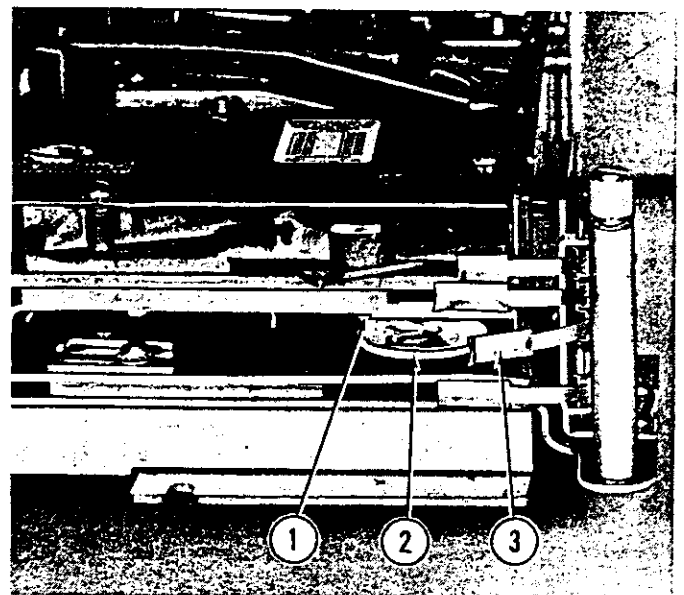

Fig. 9. SLUG REJECTOR COIN SWITCH SETTING
(1) The mechanical adjustments of the slug rejectors should be made in accordance with "Rejector Manual" furnished by National Rejectors, Inc.
(2) Coin switch adjustment on the slug rejector (see Fig. 9) should be accomplished by setting the blades of the switches and the switch actuators to provide about 1/32" opening of the contacts when the paddle end of the actuator is held against the coin exit by outward tension of the movable contact blade. The object is to maintain point contact during the entire time that the coin is passing the coin switch actuator. Care should be exercised to avoid any delay of the coin, especially in the case of the quarter. As shown in Figure 9, a thin quarter should, after being stopped at the coin paddle by blocking its way, pass slowly thru the critical point shown in Figure 9 by its own weight. There should be no current flowing in the coin circuits when these tests are made. A pulse longer than three seconds may blow the average 0.8 Amp. fuse which protects the coin magnets.